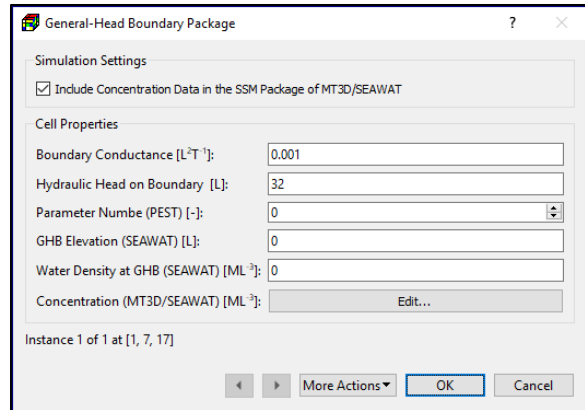
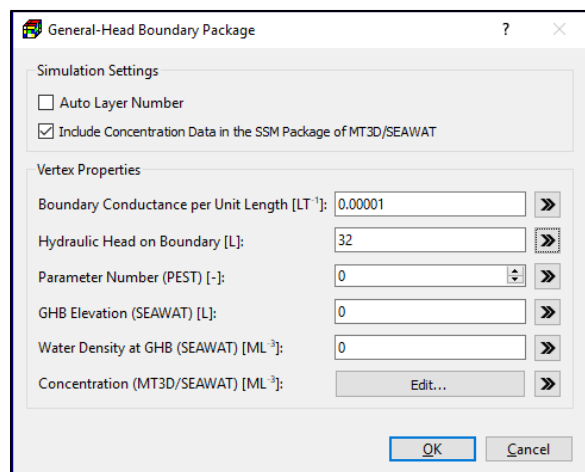
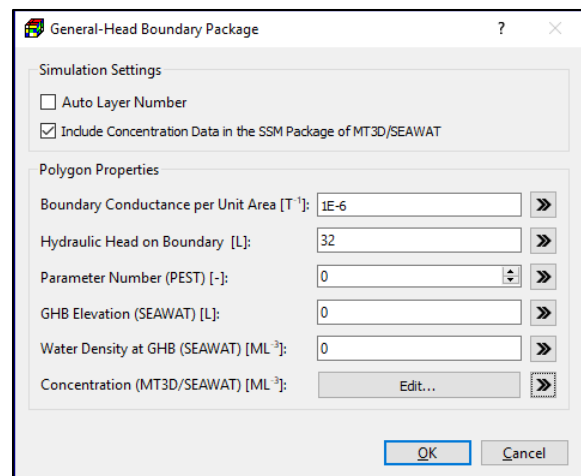

Figure 52. The General-Head Boundary Package dialog box for specifying cell properties
Figure 53. The General-Head Boundary Package dialog for specifying vertex properties.
Figure 54. The General-Head Boundary Package dialog for specifying polygon properties.
1. **All input methods:** The data entry dialog boxes (Figure 52, Figure 53, and Figure 54) of all input methods include a Simulation Settings group that contains the following option.
2. **Cell-by-cell input method:** Figure 52 shows the dialog box for specifying one or more external boundary segments to a model cell. For each segment, the following properties need to be assigned.
- **Boundary conductance (CB) [L²T⁻¹].** The value of CB depends on the characteristics of the aquifer and the external boundary.
- **Hydraulic Head on Boundary (HB) [L].** This is the head at the segment of external boundary.
3. Polyline input method: Figure 53 shows the dialog box for specify data to one or more vertices of a polyline.
- If this box is checked, the layer number of a segment of external boundary along the polyline is determined by comparing its *hydraulic head on external boundary (HB)* with the top/bottom elevations of the cells in the same vertical model column as that segment.
4. **Polygon input method:** Figure 54 shows a dialog box for specify the following data to a polygon. These data may be applied to model cells following the rules described in Section 3.3.2.3 and additional rules below.